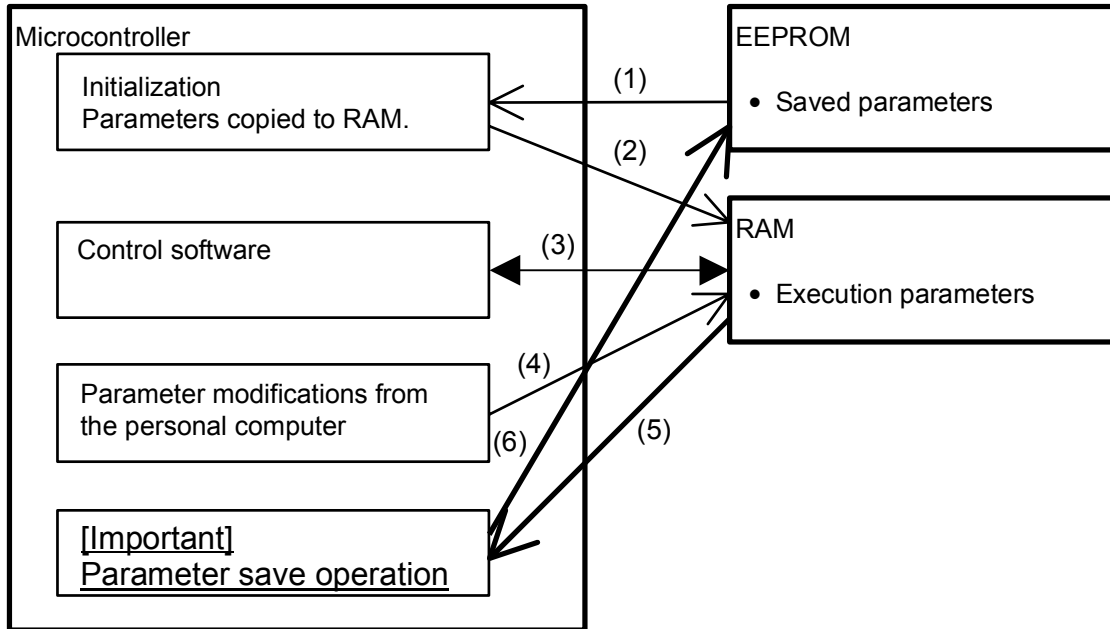

Fig. 1.6.1 Memory Structure for Parameter Settings
The setting data for this equipment is stored in EEPROM that is nonvolatile memory, as shown in Fig. 1.6.1. When the microcontroller is started (initialized) at power on the data in EEPROM is read as indicated by (1) and that data is copied without change to RAM as indicated by (2). From that point on, the data in RAM is used to control the system as indicated by (3).